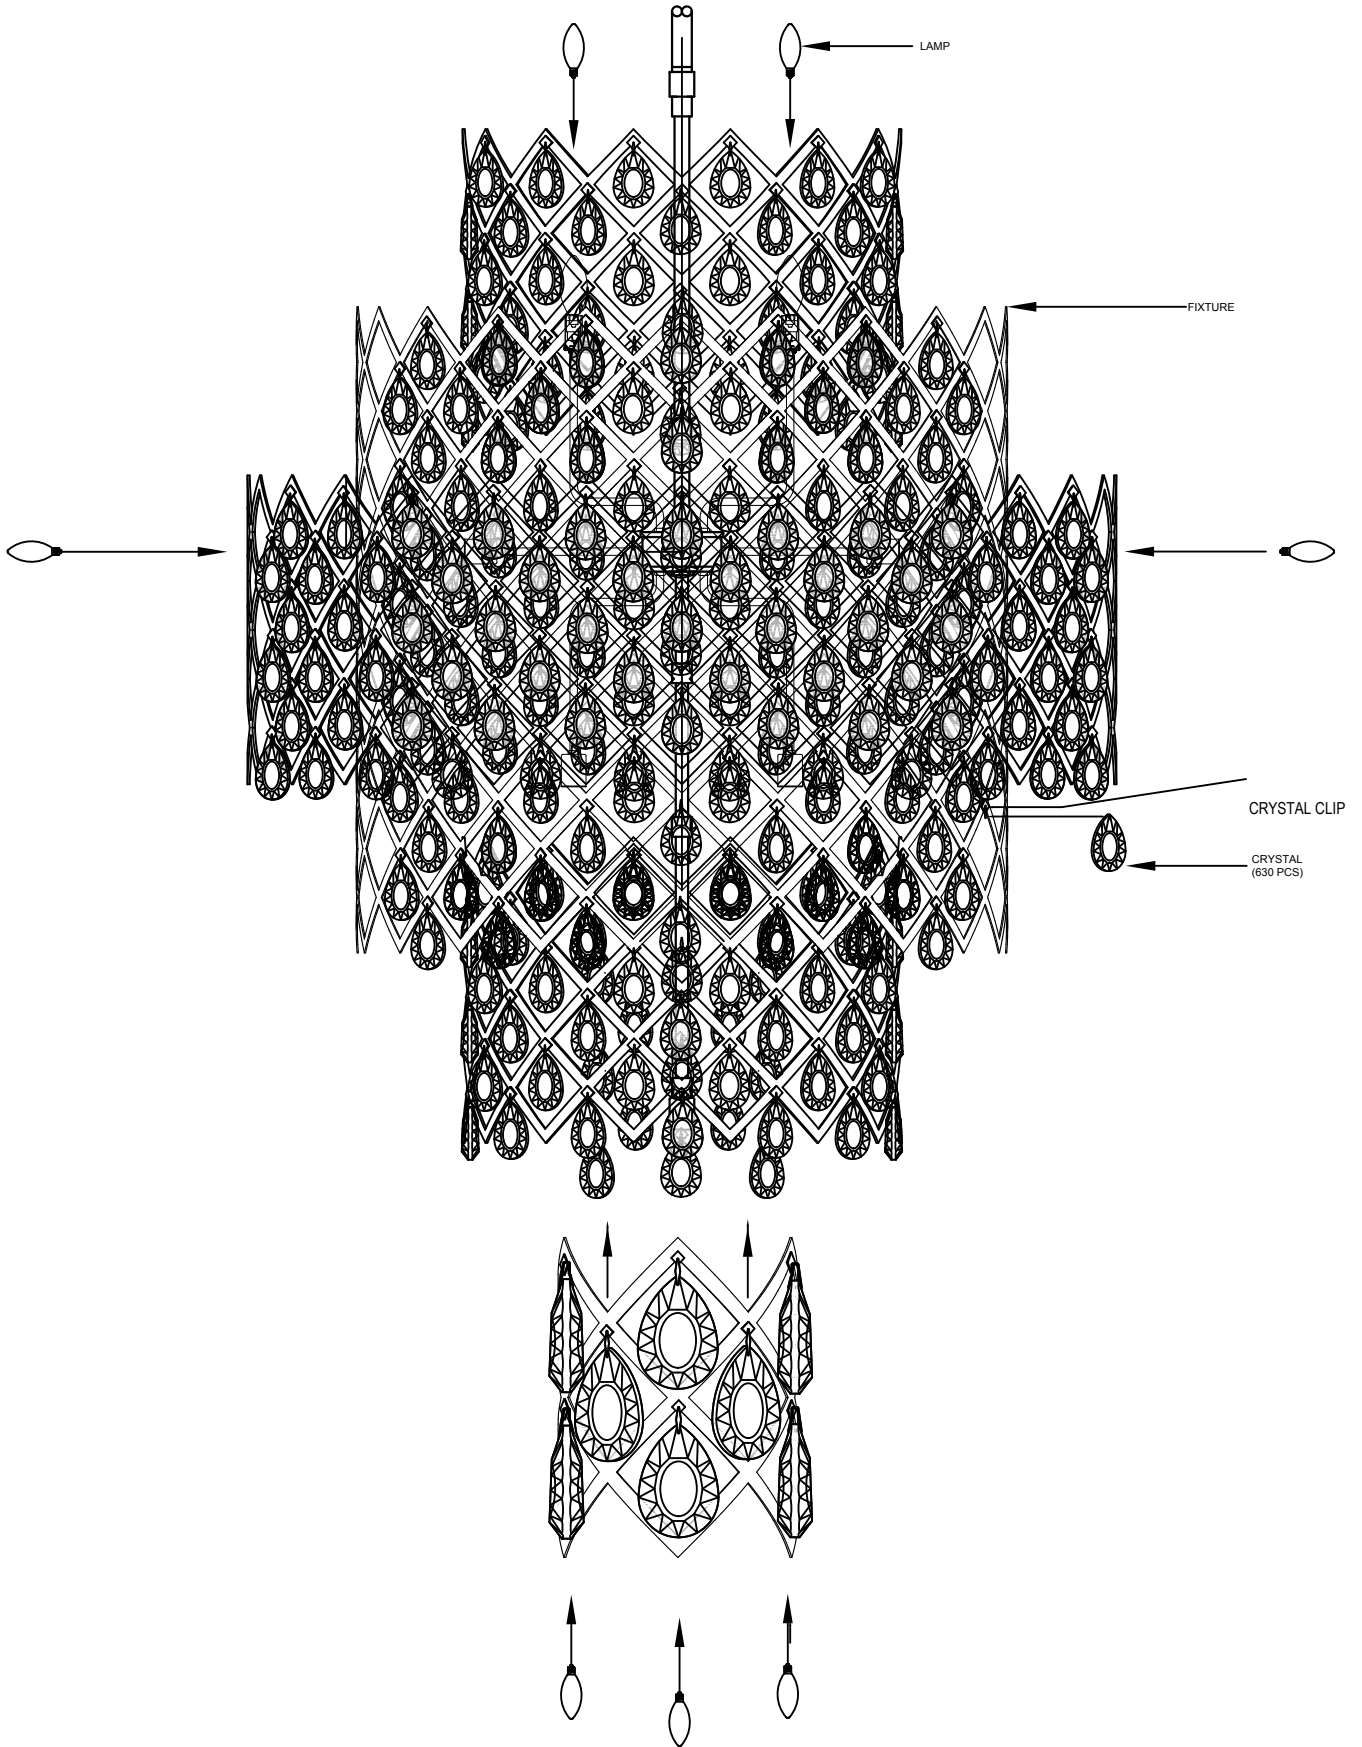

FIGURE-2
12. Hang the shell/crystal strands following the crystal schedule as seen in figure-2.